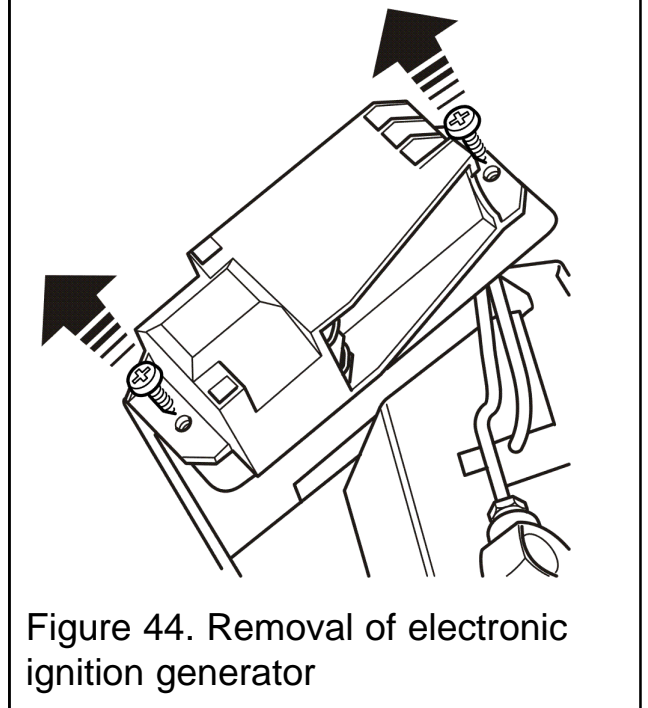

Figure 44. Removal of electronic ignition generator
4. Unscrew the two fixing screws that attach the generator unit to the support bracket. The igniter generator can now be removed (See figure 44). Between the igniter and the bracket are two spacer washers that must be kept.